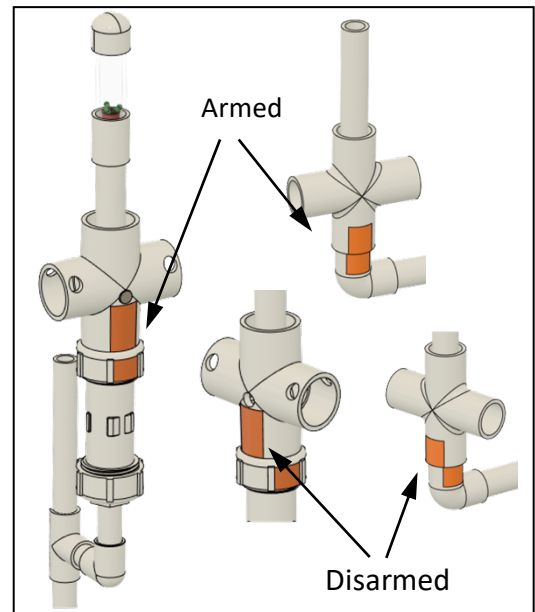

Figure 6 - Active mines shown in armed and disarmed states
- Rotating the Arming Device (10 points): The team will receive points for disarming the Active Mine as shown in Figure 6.